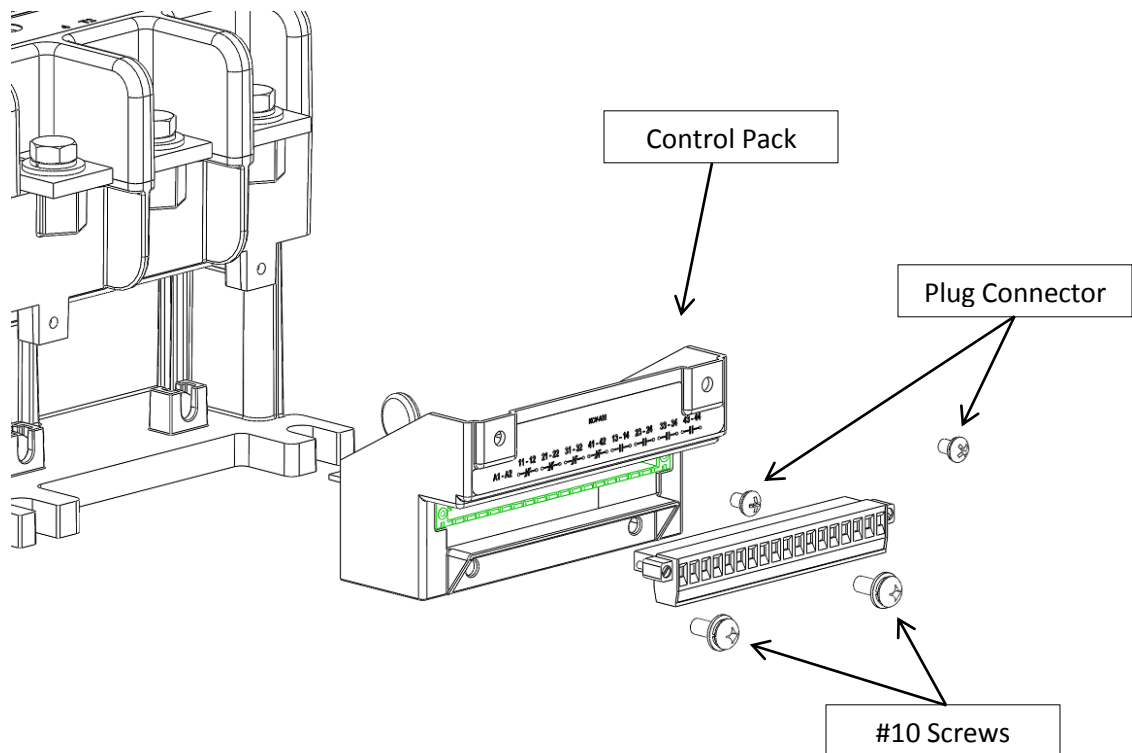

FIGURE 6
2. Remove the bottom (2) two #10 machine screws that secure the Control-Pack (FIGURE 6).
3. Remove the top (2) two plug connector screws and remove the locking insert.
4. Grab the sides of the Control-Pack and pull outwards to remove the control pack from the contactor (FIGURE 6).
6. Install the new Control-Pack (FIGURE 6). First, connect the four-pin connector to the Control-Pack. Then position the Control-Pack to slide into the contactor and push it inwards. Using the (2) two #10 screws mentioned in step 2, screw and secure the Control-Pak into the contactor.